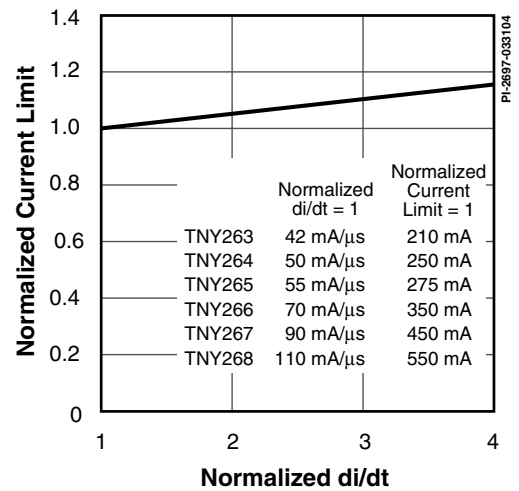

Figure 25. Current Limit vs. di/dt .
- E. For current limit at other di/dt values, refer to Figure 25.